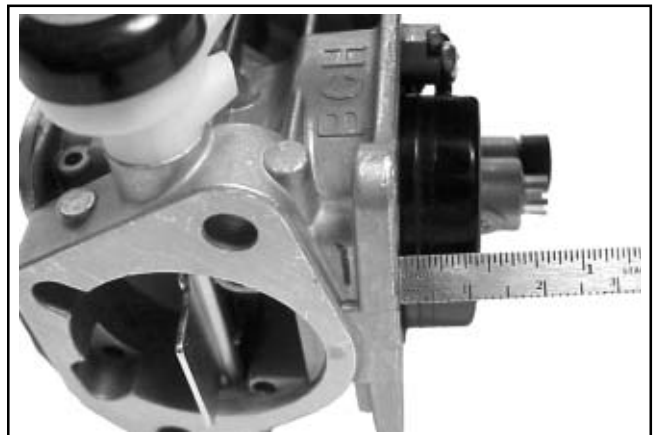

Figure 5-22. Checking Float Height.
13. The correct float height adjustment is **12.0 mm (0.472 in.)** measured from the float bottom to the body of the carburetor. See Figure 5-22. Adjust the float height by carefully bending the metal tang of the float.